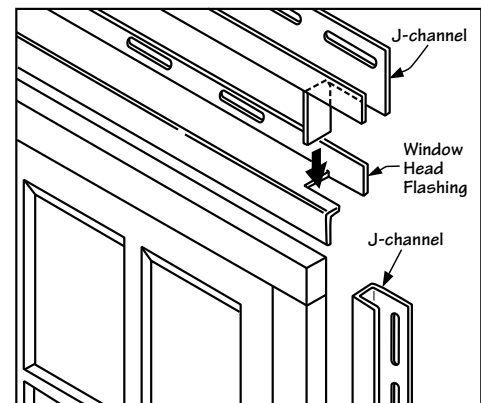

Figure 33.
- Install rigid head flashing (drip cap) on top of the top piece of exterior casing, covering trim sheet installed in the previous step. The ends of the rigid head flashing must extend to the outer edges of the exposed legs of the side J-channels. Cut a notch on the ends of the rigid head flashing and bend them down over the sides of the exterior casing. The rigid head flashing must be sealed to the exterior sheathing and to the top of the exterior casing (Fig. 33).
- Miter cut the free flange at a 45° angle and bend the tab down to provide flashing over the side members (Fig. 33). A similar miter and tab may be provided at the bottom of the window, depending on the sill's condition. The J-channel should fit snug to the window.